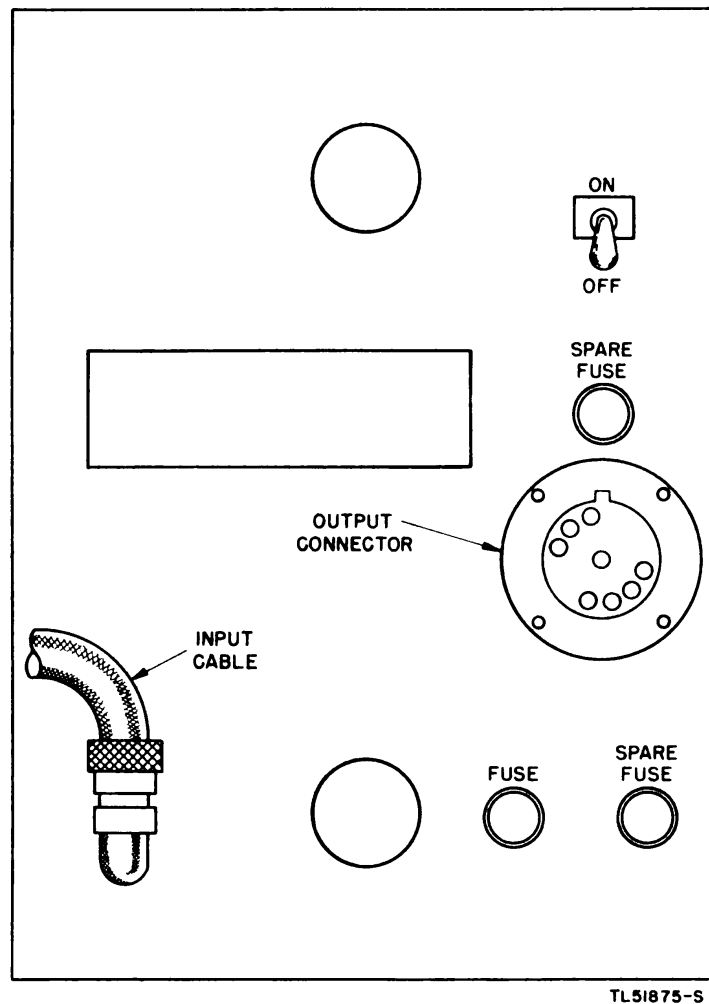

Figure 19. Vibrator power unit, identification of controls.
20. VIBRATOR POWER UNIT PP-84/TRC-10 (fig. 19).